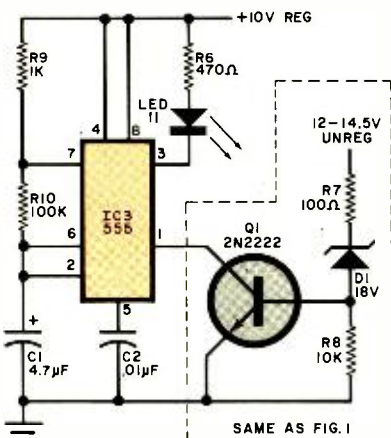

Fig. 2. Overvoltage indicator has a flash rate of 1.5 Hz.
The overvoltage warning indicator uses an 18-volt zener diode, *D1*, to trigger *Q1* into conduction if this potential is exceeded on the unregulated power line. When *Q1* conducts, **OVERVOLTAGE LED11** comes on. If desired, *LED11* can be replaced by a flasher circuit such as that shown in Fig. 2, or *Q1* can be used to drive a Sonalert No. SC628 or similar audible alarm.
PARTS LIST (Fig. 2)
the attenuator, P_O , is related to the input power P_I by the equation $P_O = (K) (P_I)$ with $K = 1/10$; where K is a ratio called the gain factor. Of course, it is possible to cascade two or more such networks to obtain a cumulative effect, as shown in Fig. 2. Here two attenuating networks are used. Their total effect is identical to that produced by a single attenuator with a gain factor of $1/100$: $P_O = (1/10) (1/10) (P_I) = (1/100) (P_I)$.